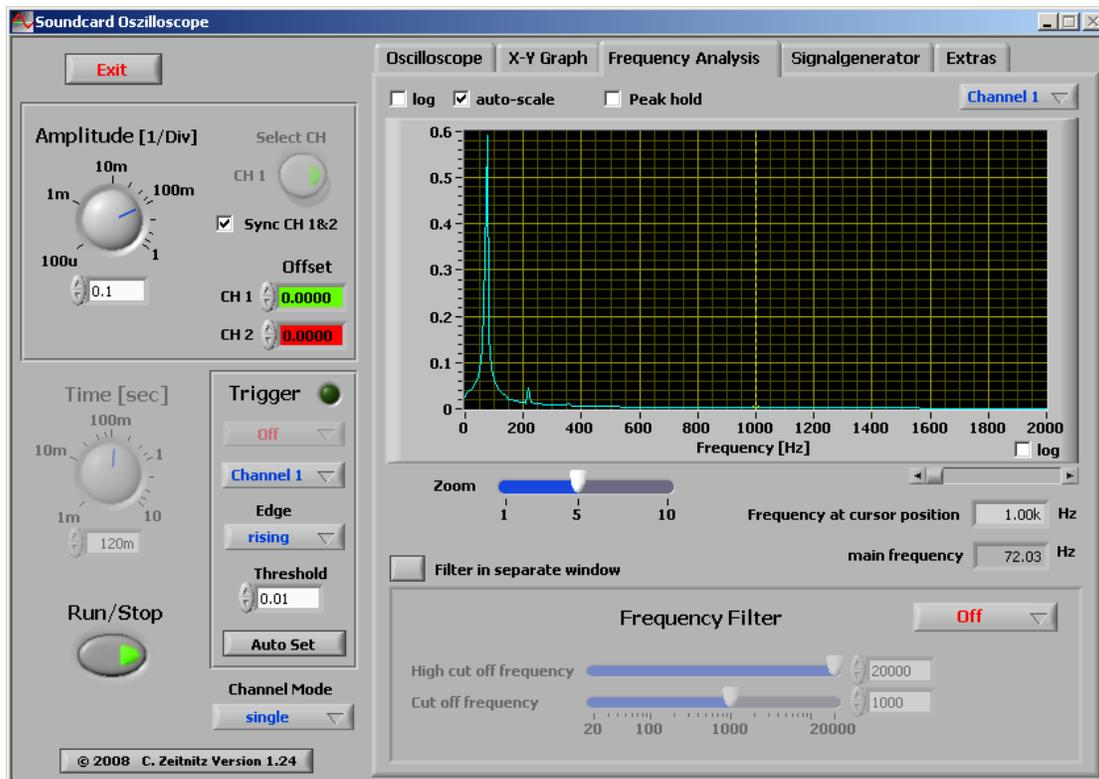

Figure 7: Using Frequency Analysis for main frequency and harmonics.
18. Select the "Frequency Analysis" tab located above the oscilloscope window. Choose a zoom of 5 and move the origin slider (just below and to the right of the Frequency axis) to reset the origin to zero. See Figure 7. The cursor was moved to measure a slight energy peak at the third harmonic.